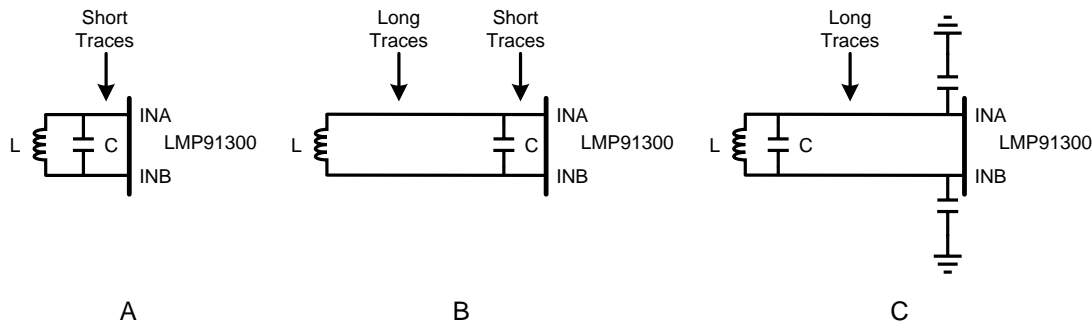

Figure 24. LC Tank Traces
There should be a ground trace between the INA and INB terminals and the rest of the terminals of the LMP91300 to decrease the coupling of the signal on the INA and INB terminals to the other terminals of the LMP91300. The trace between the LC tank and the INA and INB terminals should be as short as possible as shown in part A of Figure 24. Longer traces between the LC tank and the INA and INB terminals can cause ringing at the INA and INB terminals which can produce very noisy proximity readings. If longer traces need to be used split the LC tank so that the capacitor is close to the LMP91300 as shown in part B of Figure 24. If both the L and C have to be located a longer distance away from the LMP91300 small capacitors (15 to 22pF) can be connected between INA and ground and INB and ground as shown in part C of Figure 24.
- There should be a ground trace between the INA and INB terminals and the rest of the terminals of the LMP91300 to decrease the coupling of the signal on the INA and INB terminals to the other terminals of the LMP91300. The trace between the LC tank and the INA and INB terminals should be as short as possible as shown in part A of Figure 24. Longer traces between the LC tank and the INA and INB terminals can cause ringing at the INA and INB terminals which can produce very noisy proximity readings. If longer traces need to be used split the LC tank so that the capacitor is close to the LMP91300 as shown in part B of Figure 24. If both the L and C have to be located a longer distance away from the LMP91300 small capacitors (15 to 22pF) can be connected between INA and ground and INB and ground as shown in part C of Figure 24.